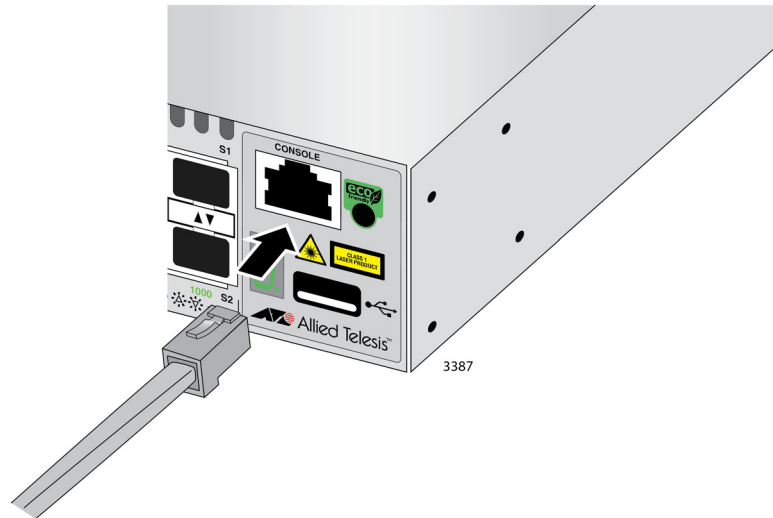

Figure 33. Connecting the Management Cable to the Console Port
1. Connect the RJ-45 connector on the management cable to the Console port on the front panel of the switch, as shown in Figure 33 on page 62.